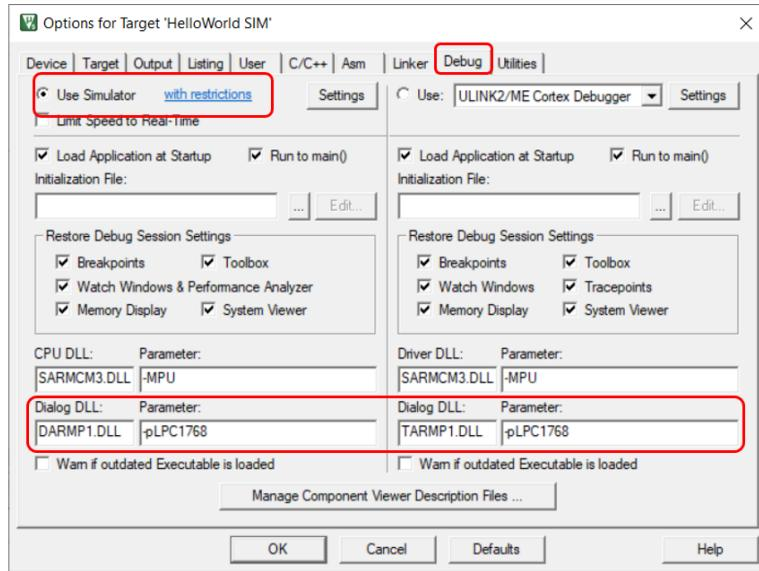

Figure 9.17: Keil IDE: Target Options Debug Tab Configuration
1. Open up the target option window and select “Use Simulator” in the Debug tab and set the Dialog DLL and Parameters as shown Figure 9.17.